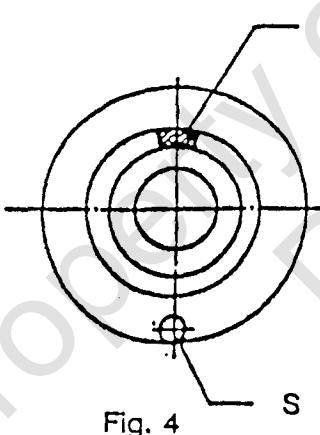

Fig. 4
- * Apply the first balancing weight "G" opposite to this point "S"and screw it up. It can not be moved again (Fig.4)